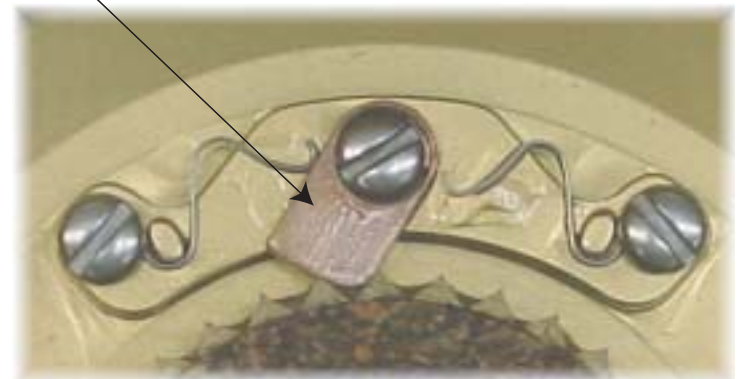

Figure 4
3. The converted right-to-left hand pawl/clutch assembly should look similar to Figure 4 for left hand retrieve and Figure 3 for right hand retrieve.